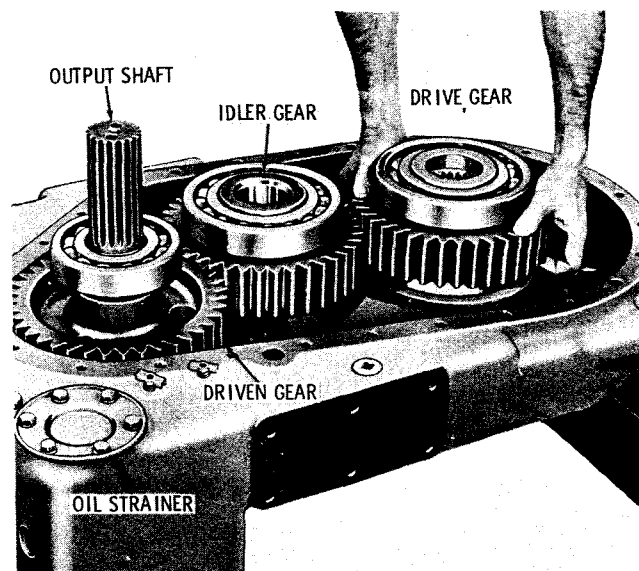

Fig. 5-44. Removing transfer drive gear
(10) On transmissions so equipped, remove two bolts 11 (foldout 13), washers 10, cover 9 and gasket 8.
(11) On transmissions having a speedometer drive, remove bolts 52 (foldout 14), washers 53, drive sleeve assembly 54, washer 58, gasket 59 and shaft 60. Refer to paragraph 6-24 for sleeve assembly rebuild procedures.
(12) Remove the drive gear, idler gear, driven gear and their attached parts from the transfer gear housing (fig. 5-44). Do not remove the bearings and other attached components unless parts replacement is necessary,
(13) Remove the six bolts and lock washers which retain the oil strainer (fig. 5-44). Remove the strainer and gasket (fig. 7-1). Refer to paragraph 6-25 for transfer gear housing rebuild procedures.